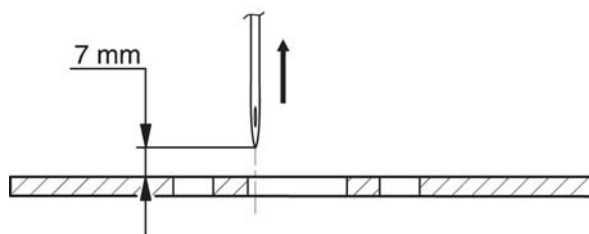

Fig. 6b
- Turn the handwheel a full rotation forwards, then keep on turning it until the needle is about 7 mm above the needle plate surface (fig. 6b).